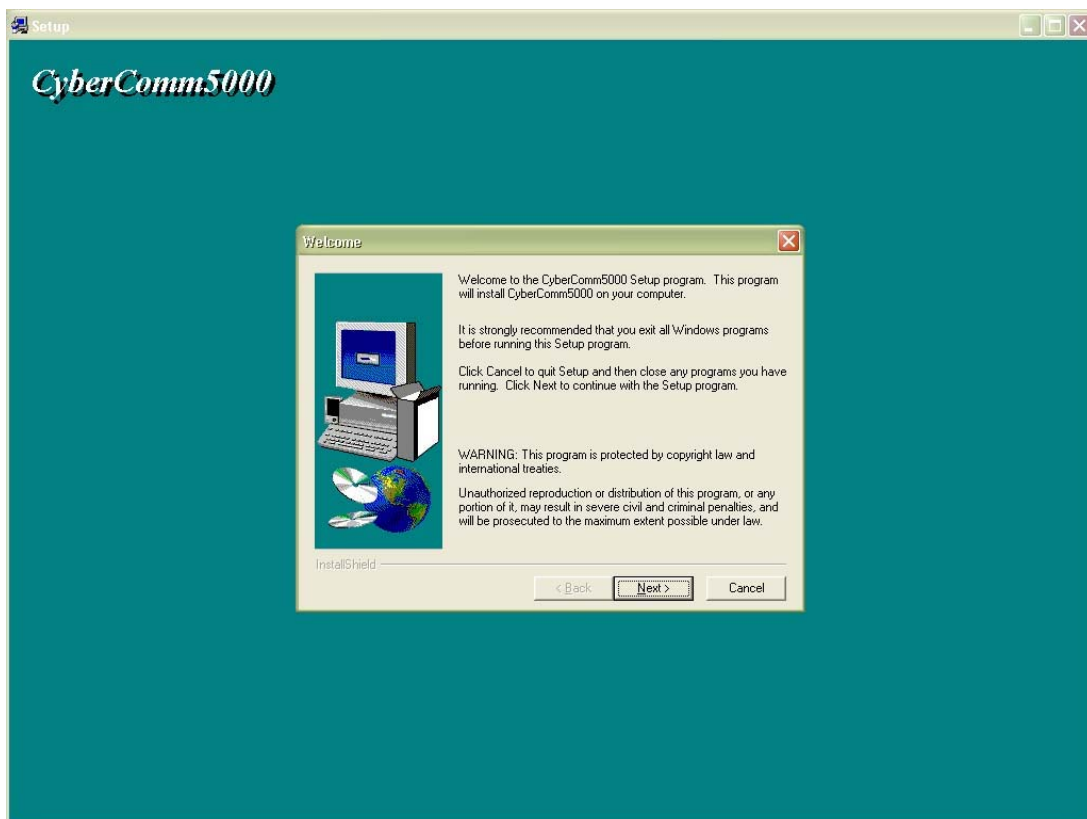

Figure 1: Main Setup
See **Figure 1**.
- a) Turn on the computer (PC).
- d) See Figure 1: Main Setup, click **Next** to continue setup process.